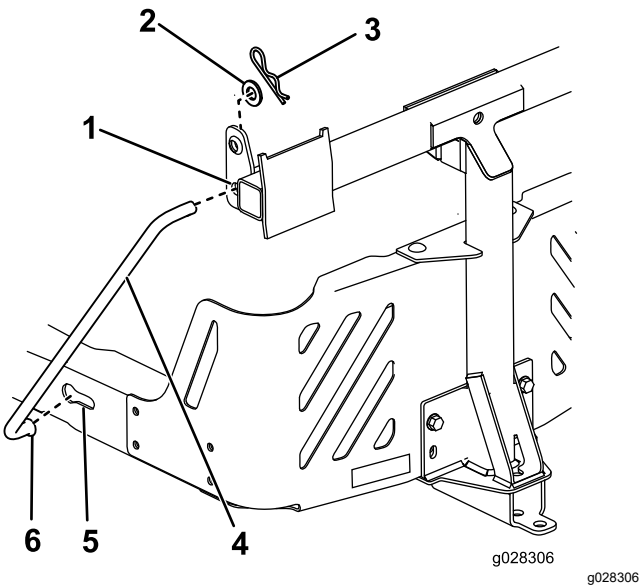

Figure 17
- 7. Install the bent, flared end of a rod into the keyed slot in the left side of the machine frame, and move the rod rearward to seat it in the frame (Figure 17).
8. Insert the bent ends of the rods into the attachment mount as shown in Figure 17 and secure the end of each rod with a washer and hairpin cotter.